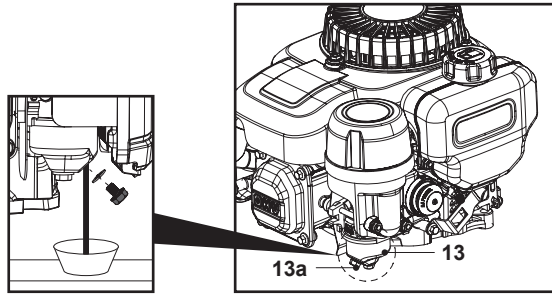

Fig. 27
3. Unscrew the fuel drain screw (13a) and let the fuel run into the container (Fig. 27).